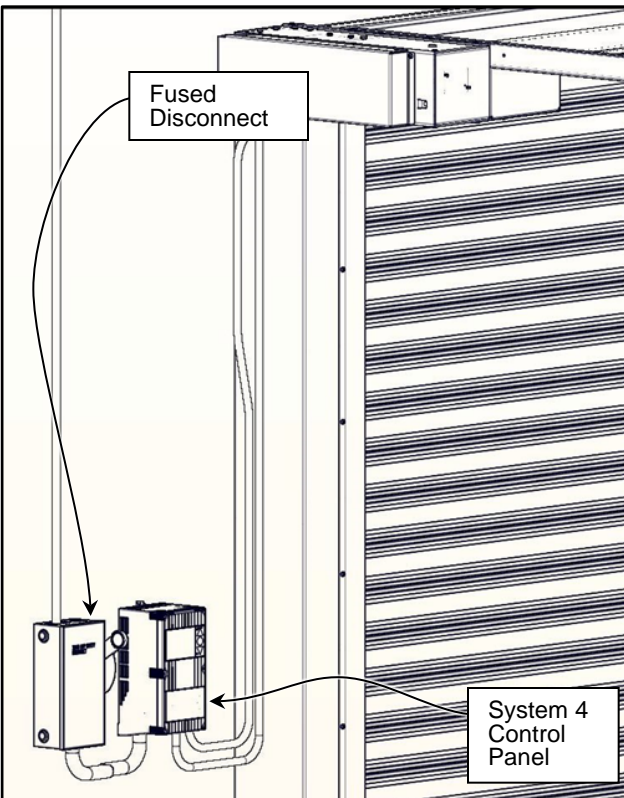

Figure 83
1. Route the drive motor/motor brake power cable, leading from the motor junction box, to the control panel. (See Figure 83)